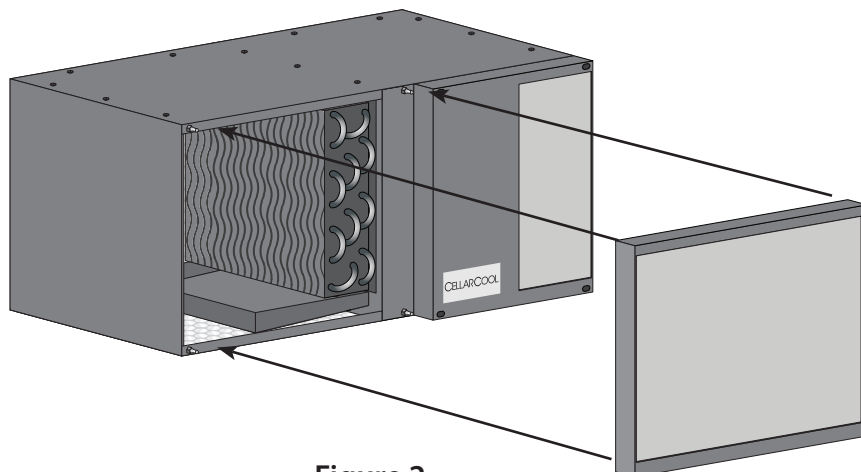

Figure 2
15. Reinstall the access panel removed in Step 1 on page 10 by pushing the four corners into place. (See Figure 2.)